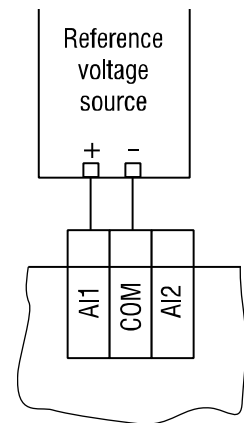

Fig. F.1
1. Connect the reference voltage source of accuracy class at least 0.05 to the input AI1 (Fig. F.1).